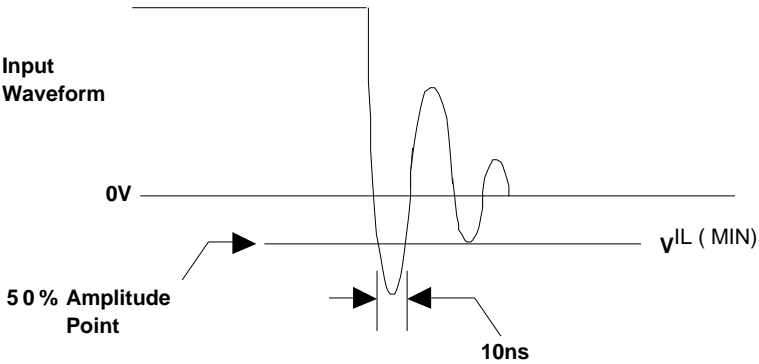

Figure 12: Input Signal Waveform
- 1.0 Volts for a duration of 10 ns measured at the 50% amplitude points for Input-only lines (see Figure 12 on page 26).
1. 1.0 Volts for a duration of 10 ns measured at the 50% amplitude points for Input-only lines (see Figure 12 on page 26).